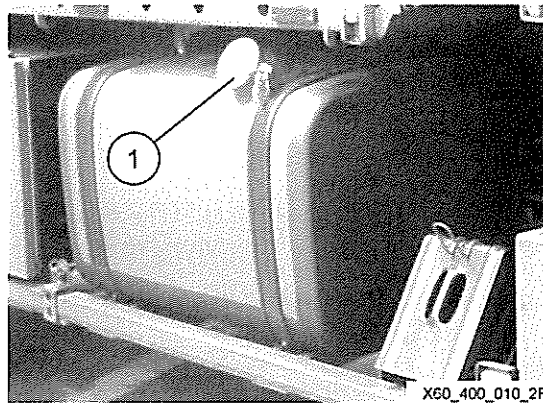

Fig 40 Refilling the fuel tank
- 93 Refer to Fig 40. To refill the fuel tank, proceed as follows: